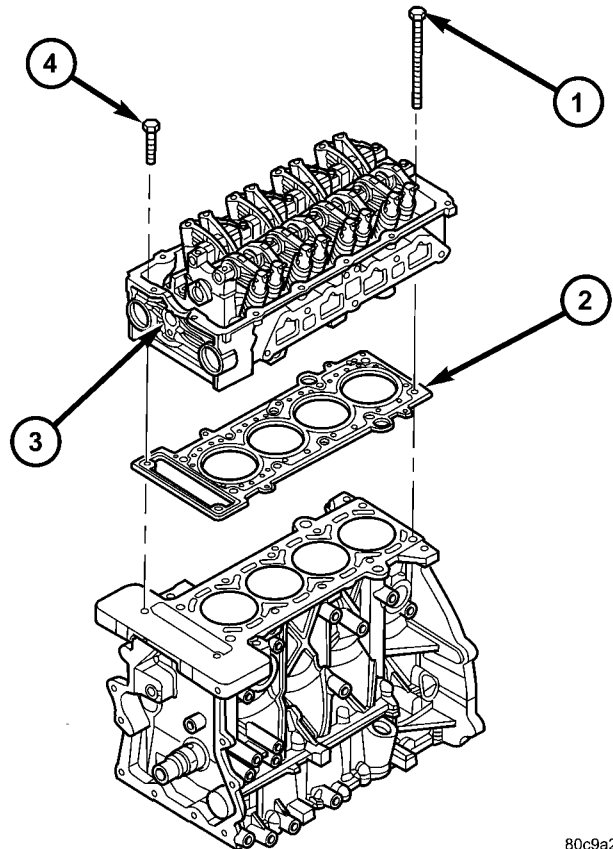

Fig. 20 Cylinder Head and Gasket
- (32) Remove cylinder head bolts (Fig. 20).
- (33) Remove cylinder head and gasket.